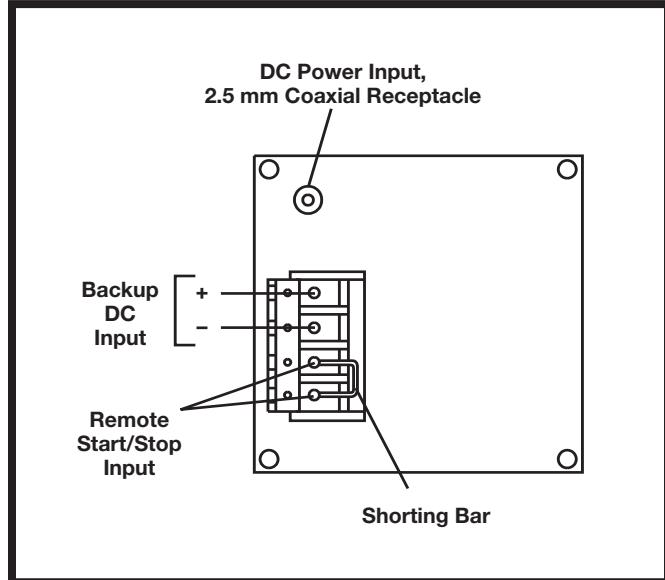

Figure 3. Pump – Rear Panel
The rear panel, *Figure 3*, contains a DC power input jack for connection of primary power and a 4-terminal barrier strip for connection of remote start/stop and for a DC backup supply.
**Remote Start/Stop:** Terminals 3 and 4 on the rear panel terminal strip, (*Figure 3*) are used for remote start/stop operation. Pump direction and speed are not remotely controllable. In non-remote operation, these terminals are connected together by a shorting bar. For remote control by switch closure, remove the shorting bar and connect the two terminals of an isolated remote control switch or relay to terminals 3 and 4. A closure of the remote switch contacts will turn the pump system on. Opening the contact will turn the pump system off.